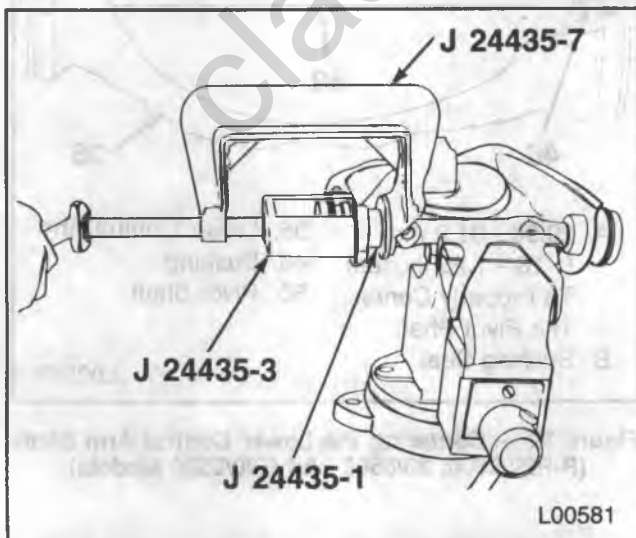

Figure 30 — Removing the Lower Control Arm Bushing (G20/2500 W/6.2L Diesel)
1. Lower control arm (36).
2. Bushings (46) and the pivot shaft (50) from the lower control arm (36).
- Use J 24435-1, J 24435-3 and J 24435-7 (figure 30).
- Tighten J 24435-7 to remove the bushing (46).
- Repeat the procedure on the remaining bushing (46) to remove it from the lower control arm (36).
- Upper control arm (28).
- Nuts (24), bushings (26) and the pivot shaft (29) from the upper control arm (28).
- Tighten J 24435-7 to remove the bushing (26).
- Pivot shaft (29) can be pulled free at this time.
- Repeat this procedure on the remaining bushing (26).